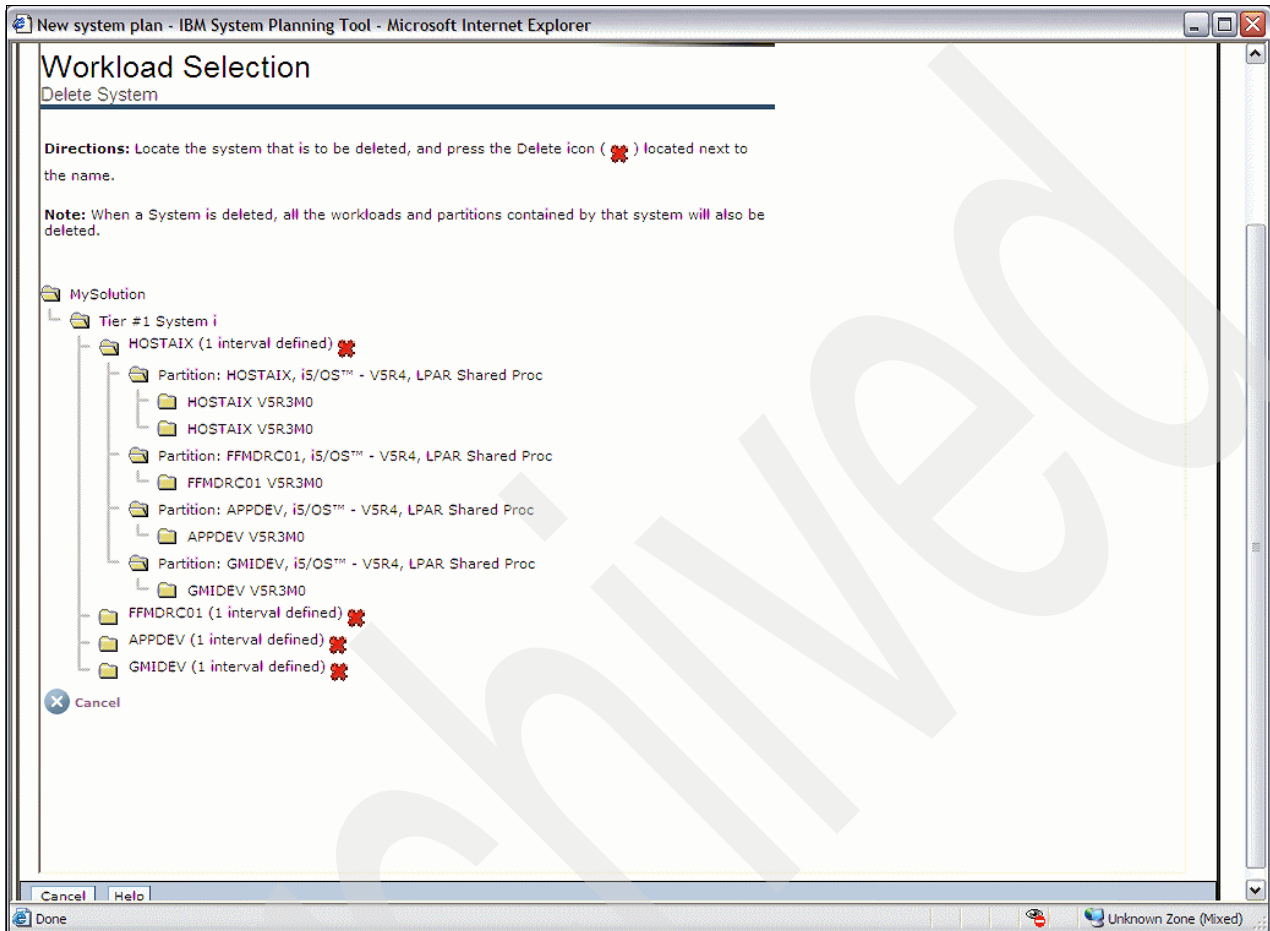

Figure 5-6 Delete excess systems
4. In our example we have set up multiple partitions in a single system. Once the partitions have been moved, some of the original systems do not have any workload. These need to be deleted. Select the option to delete a system. Make sure that all systems without workload are deleted. Figure 5-6 shows systems that need to be deleted.